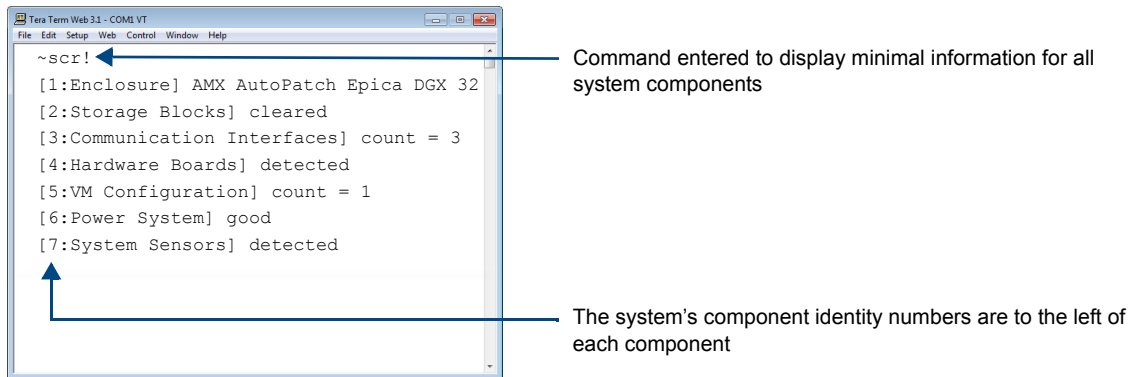

FIG. 63 Example of a default Epica DGX 32 splash screen
The splash screen can be accessed using a terminal emulation program (e.g., TeraTerm, PuTTY, or HyperTerminal – see page 33). One of four verbosity** settings is specified, which provides either a list of the seven system components with minimal information (FIG. 63) or a level of detailed information on one of the seven components. Only one verbosity setting and one component setting can be entered in a command. The order in which the verbosity and component settings are entered is interchangeable.
- If both settings are omitted during a query (`~scr!`), the information displayed will be at the lowest verbosity level for all components (`v0i0`) (FIG. 63 on page 132).
Note: Either of these commands provides a “menu” of the identity numbers and their corresponding components (FIG. 63 on page 132).